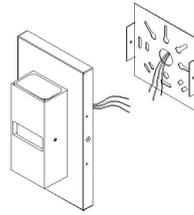

FIG. 3
Step3: Wire, refer to the wiring layout FIG8 (black to line, white to neutral, and yellow / green to ground) (FIG.3)